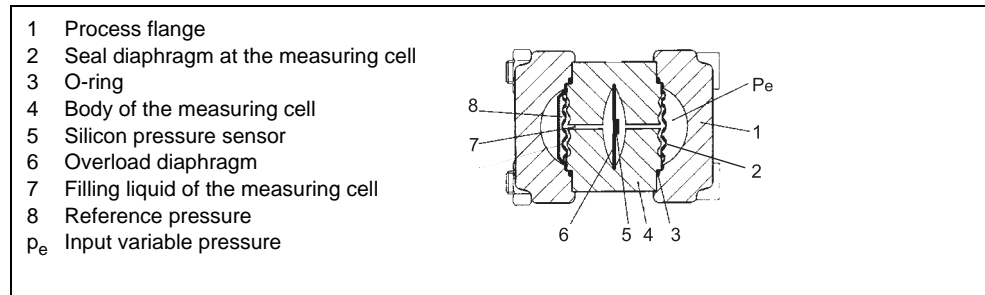

Figure 9 Measuring cell for absolute pressure, functional diagram
The absolute pressure is transmitted via the seal diaphragm (see (6) Figure 9, page 20) and the filling liquid (7) to the silicon pressure sensor (3). On exceeding the measuring limits, the overload diaphragm (5) is deflected until the seal diaphragm (6) comes into contact with the body of the measuring cell (4) and protects the silicon pressure sensor (3) against overloading. The pressure difference between the input pressure (p_e) and the reference pressure (8) on the low pressure side of the measuring cell flexes the measuring diaphragm. Four piezo-resistors in bridge circuit doped in the measuring diaphragm change their resistance as a result. The change in resistance causes a bridge output voltage proportional to the absolute pressure.